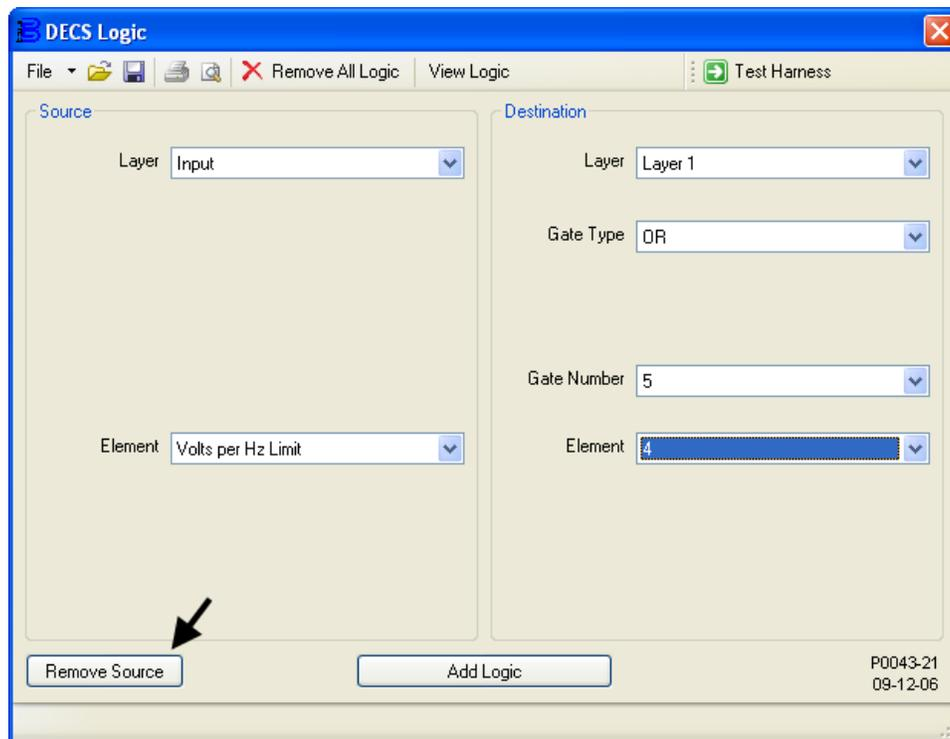

Figure 9-17. Deletion of Layer1 InputBuffer.Volts per Hz Limit --> Or1.Input4
1. Figure 9-17 illustrates the DECS Logic window settings associated with this step. Disconnect the V/Hz Protection Active input buffer from input 4 of OR gate 5 on logic layer 1. In Table 9-2, this association is identified by “DESTINATION: Layer1 – InputBuffer.Volts per Hz Limit → Or1.Input4”.